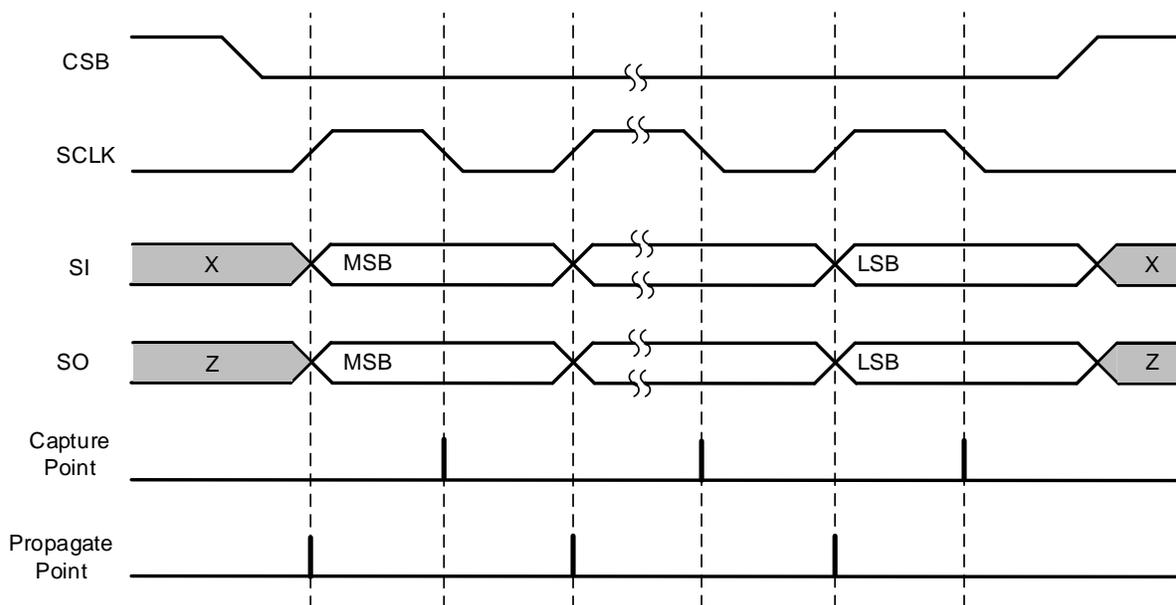

Figure 7 (1). SPI Data Frame
The device supports standard 16-bit SPI to control. The commutation is performed by MSB clocked in first. The SPI interface is a synchronous serial interface for address and data transfer at bit rates of up to 5MHz. It is configured in 8-bit bytes designed to interface with a standard SPI bus. Four pins are used to communicate on the SPI: SCLK (synchronous clock), CSB (chip select, active low), SI (data input to the device for write operations,) and SO (data output from the device for read operations). As shown in Figure 7 (1).